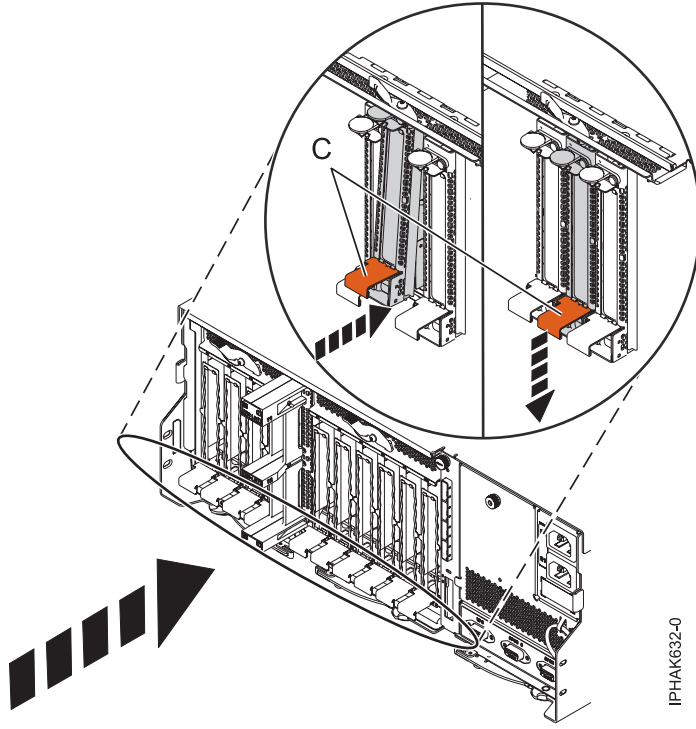

Figure 77. Installing the PCI adapter cassette
1. Ensure that the lower cassette handle (C) is pressed up toward the retainer clip as shown in Figure 77 on page 85. This places the adapter in the correct position to be docked in the system.
3. When the cassette is fully inserted into the system, firmly press downward on the lower cassette handle (C) to lock the adapter in its connector.